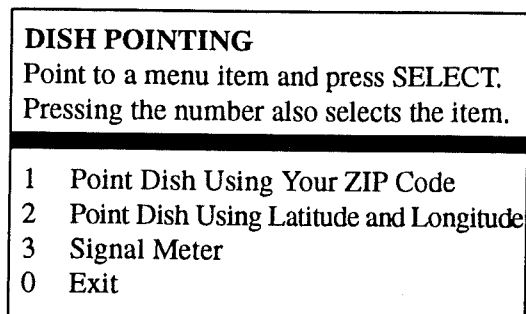

FIGURE 5
STEP 11: Select # 2 Dish Pointing. Figure 5